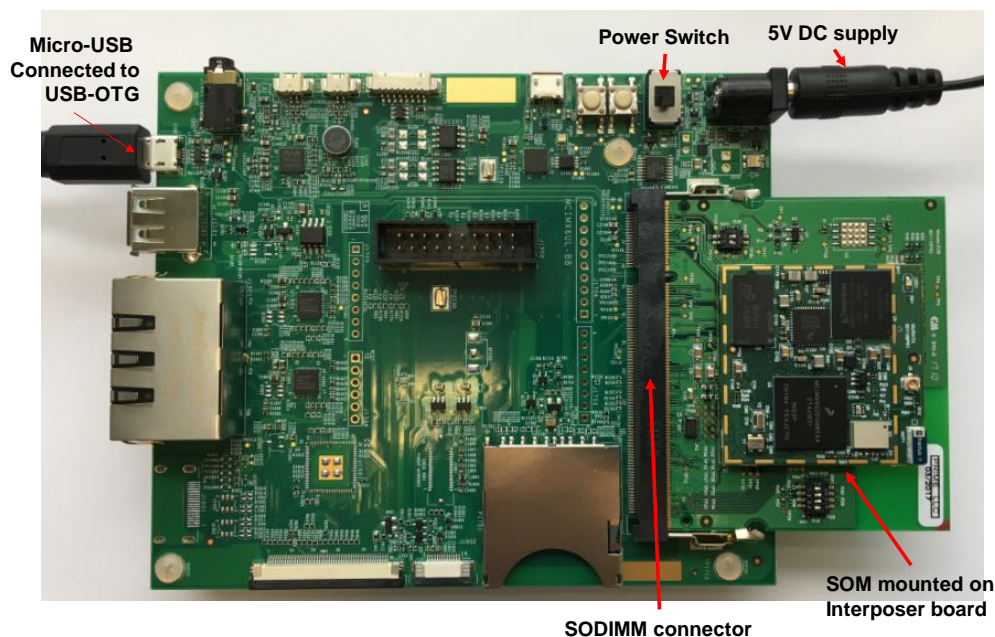

Figure 6 Assembled SOM-EVK
- The properly inserted Interposer board should be held in place by the clips on the SODIMM connector, as shown in Figure 6.